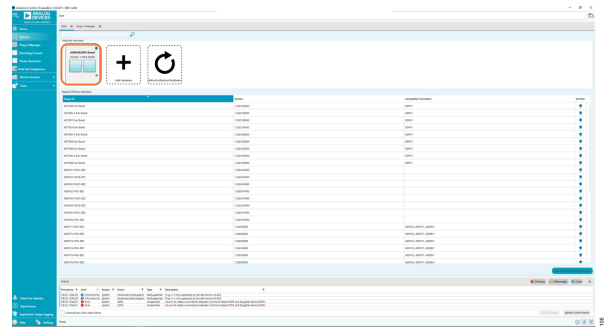

Figure 6. ACE Screen at Startup with the ADMFM200 Board Connected
4. Launch the ACE software. If the PC is connected to the SDP-B controller board via the USB cable and the SDP-B controller board is connected to the ADMFM2000-EVALZ board, the **ADMFM2000 Board** is displayed in the **Attached Hardware** area of the ACE software main window (see Figure 6).